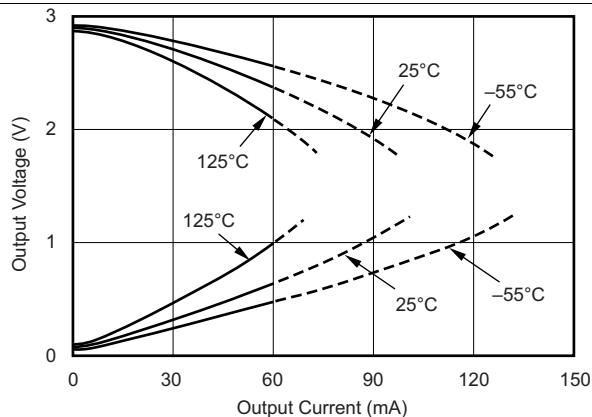
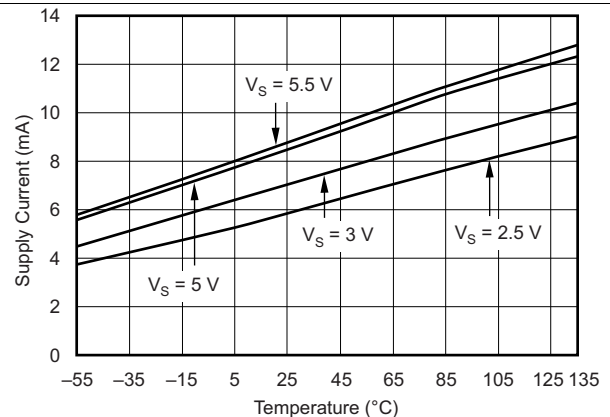
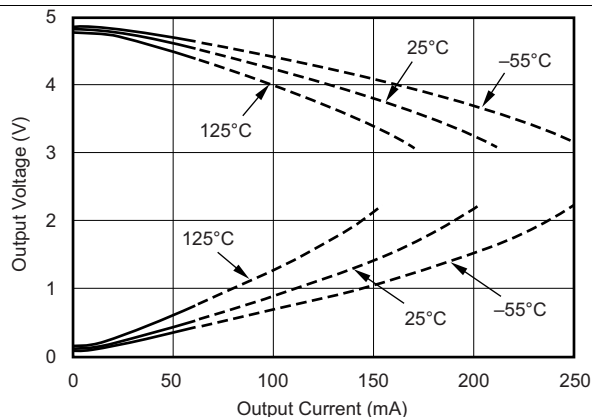

Figure 21. Output Voltage Swing vs Output Current for $V_S = 3\text{ V}$
Figure 22. Supply Current vs Temperature
Figure 23. Output Voltage Swing vs Output Current for $V_S = 5\text{ V}$
(1) See the *Output Voltage Swing vs Output Current* (Figure 21 and Figure 23) in the *Typical Characteristics* section.
(2) Logic LOW and HIGH levels are CMOS logic compatible. They are referenced to V_- .
Running a continuous DC current in excess of ± 60 mA is not recommended. Refer to the *Output Voltage Swing vs Output Current* graphs (Figure 21 and Figure 22) in the Typical Characteristics section.